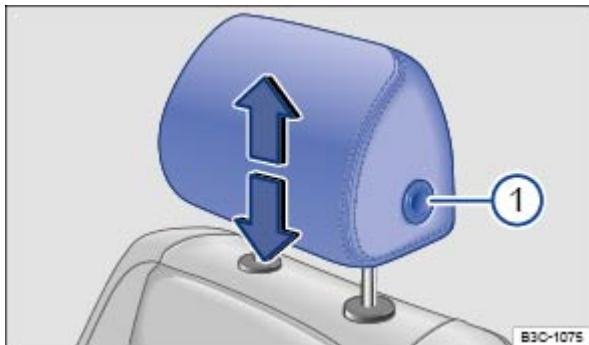

Fig. 80 Adjusting the front head restraints.
- While pressing the button \Rightarrow Fig. 80①, pull the head restraint up or push it down \Rightarrow .